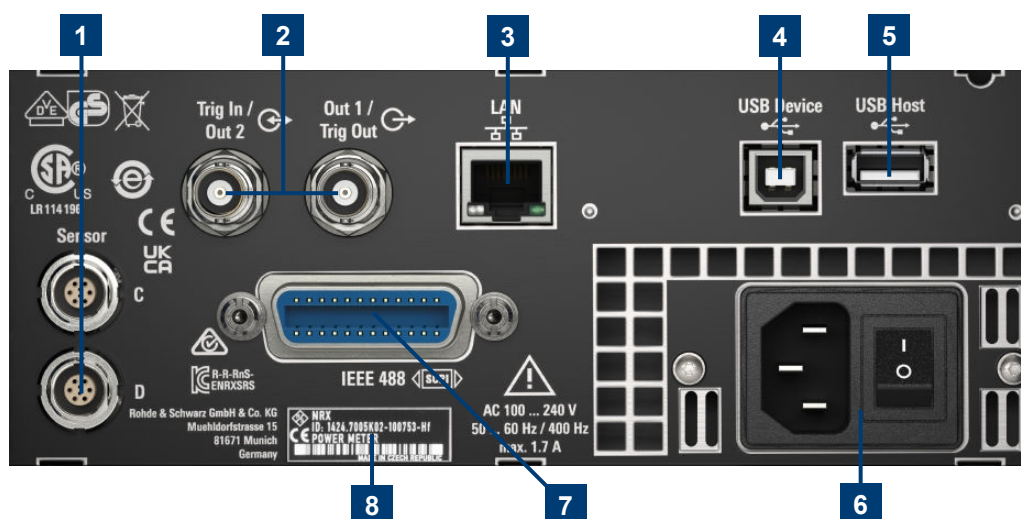

Figure 5-2: Rear panel of the R&S NRX
See (8) in Figure 5-2.
See (2) in Figure 5-2.
See (3) in Figure 5-2.
See (4) in Figure 5-2.
See (6) in Figure 5-2.
See (7) in Figure 5-2.